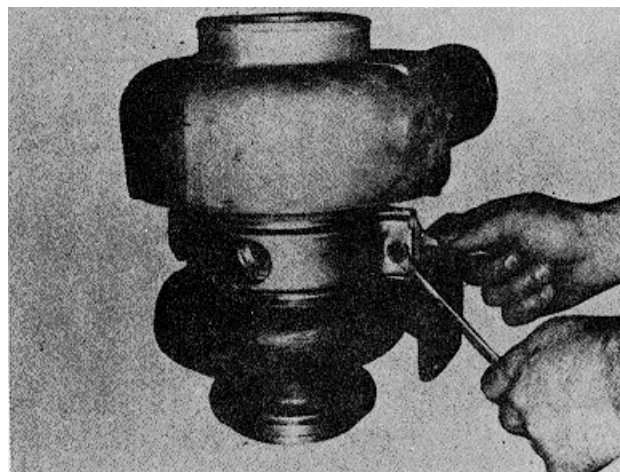

Fig. 10-7, T-416. Removing "V" clamps
3. Remove self-locking nuts, flatwashers and bolts securing V clamp to turbocharger. Fig. 10-7. Lift off V clamps; discard self-locking nut, flatwashers and bolts.